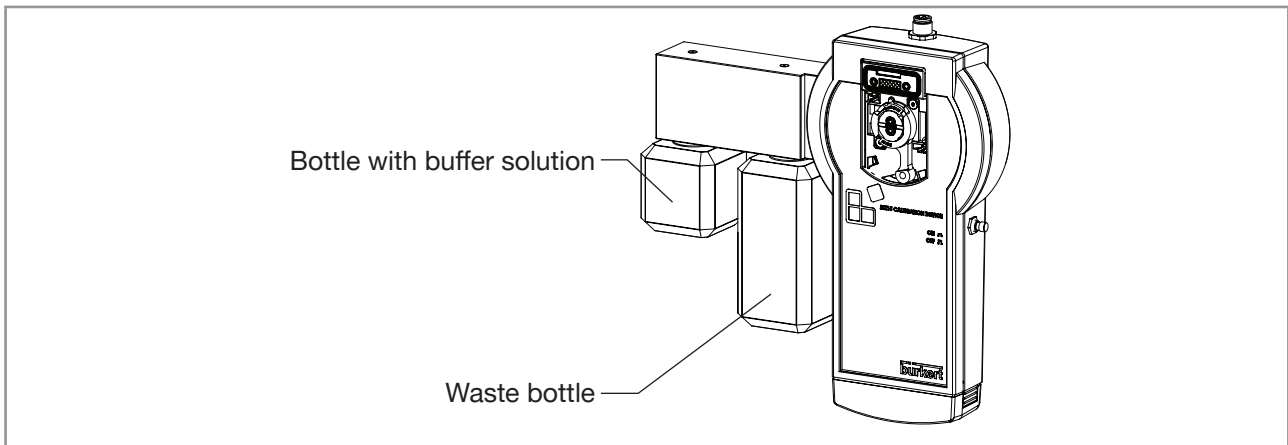

Fig. 9: Handheld calibration-and-cleaning tool: position of the bottle with the buffer solution and position of the waste bottle
- Screw the bottle with the buffer solution as shown in Fig. 9. Refer to the Operating Instructions of the Type MZ15.